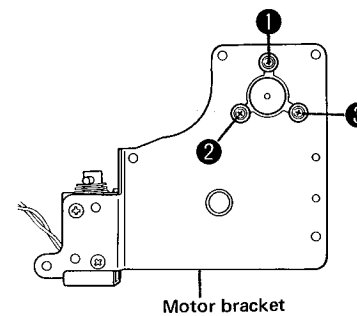

Fig. 17
3. Remove screws 1 to 3 in Fig. 17 and replace the capstan motor.